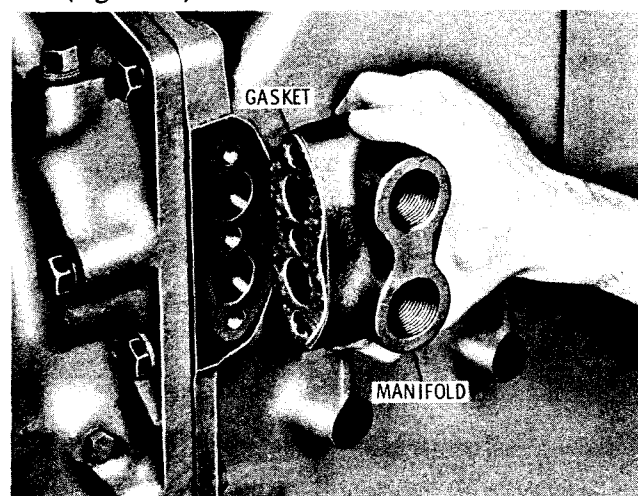

Fig. 5-1. Removing oil cooler manifold
(1) Remove three bolts and lock washers which retain the oil cooler manifold. Remove the manifold and gasket (fig. 5-1).